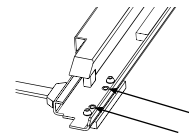

Fig 2
- 3) Assemble the slide assembly to the floor of the cabinet using the (8) #6 x 1" flat head screws. (Note: that the screws use the inner set of holes on the plastic feet. (See Fig 2)